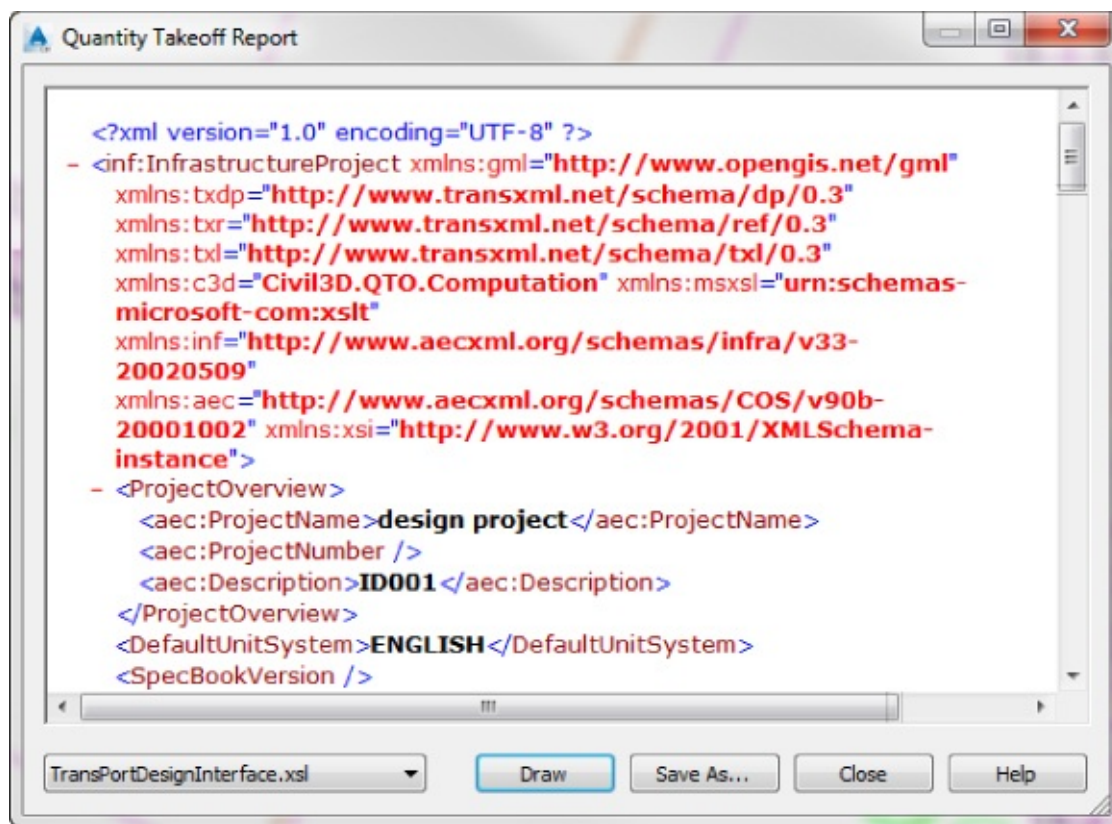

Figure 17.22 Quantity Takeoff Report in the default XSL format
3. Click Compute to open the Quantity Takeoff Report dialog, as shown in Figure 17.22.